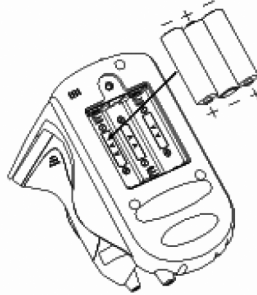

Figure 3
- 2) According to the polarity mark, insert three AA batteries into battery groove, as shown in Figure 3.
- Figure 3